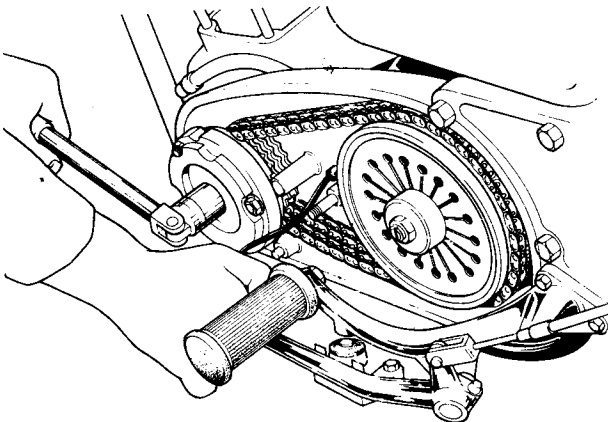

Fig. C12 Removing rotor nut whilst applying rear brake to prevent movement
- 1 Using a suitable sized socket wrench $\frac{1}{2}$ in. Whit. on the alternator rotor nut, remove the rotor nut as shown in Fig. C12.